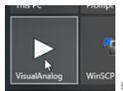

Figure 67. Opening VisualAnalog
- ▶ Open VisualAnalog (see Figure 67).